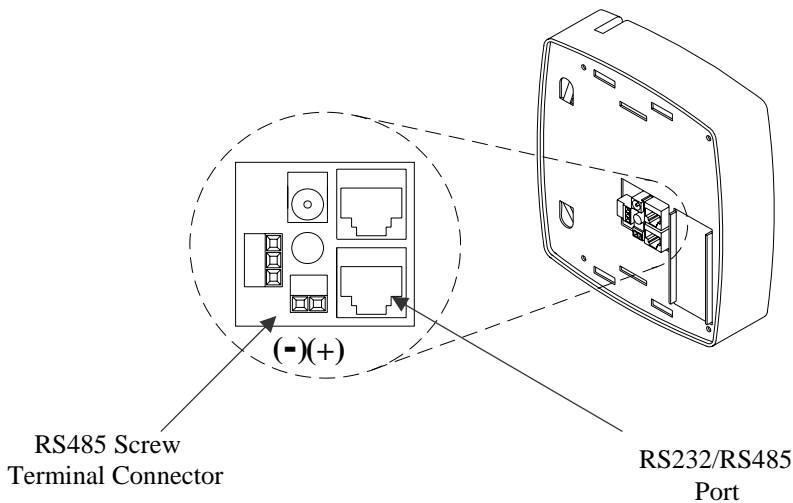

Figure 4
- ◆ Unplug the RS485 screw terminal connector and attach a matched pair from your cable as shown in the diagram, plug in the connector. Make sure that the polarity is maintained. If your cable is terminated with a RJ-45 plug connect to the Terminal's RS232 / RS485 communications port as shown in the diagram below, Figure 4.